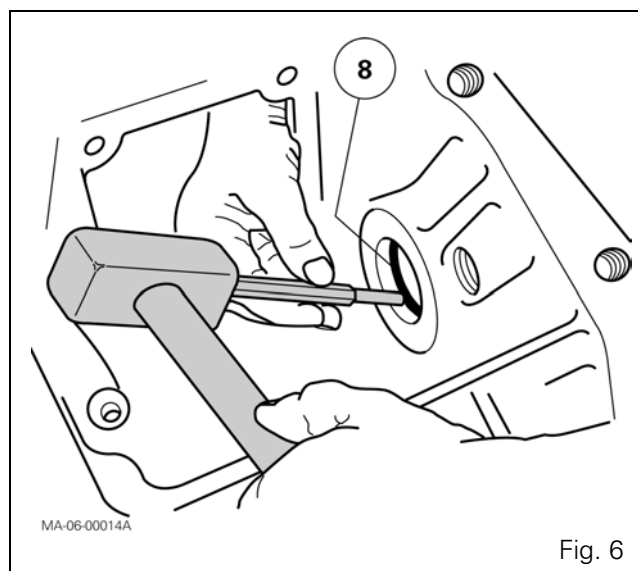

Fig. 6
15. Remove the O'ring (20).
16. Unlock the screws (2) retaining the lift arms.
18. Remove the washers (1).
19. Remove shims (12).
20. Remove the lift arms (5) (11) and the washers (30).
21. Remove the nylon rings (6) and the O'rings (7).
22. Remove the set screws (14) from the cam (9).
23. Extract the lift shaft (4) from the cover.
24. Remove the cam (9).
25. Remove the rings (8) (Fig. 6).
26. Remove the cup plug (17) (2-speed PTO).